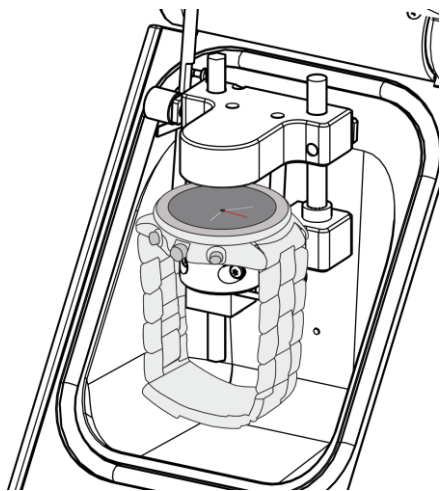

Fig. 28: Watch positioned
2. Place the watch on the watch underlay (Fig. 28). Note the following: